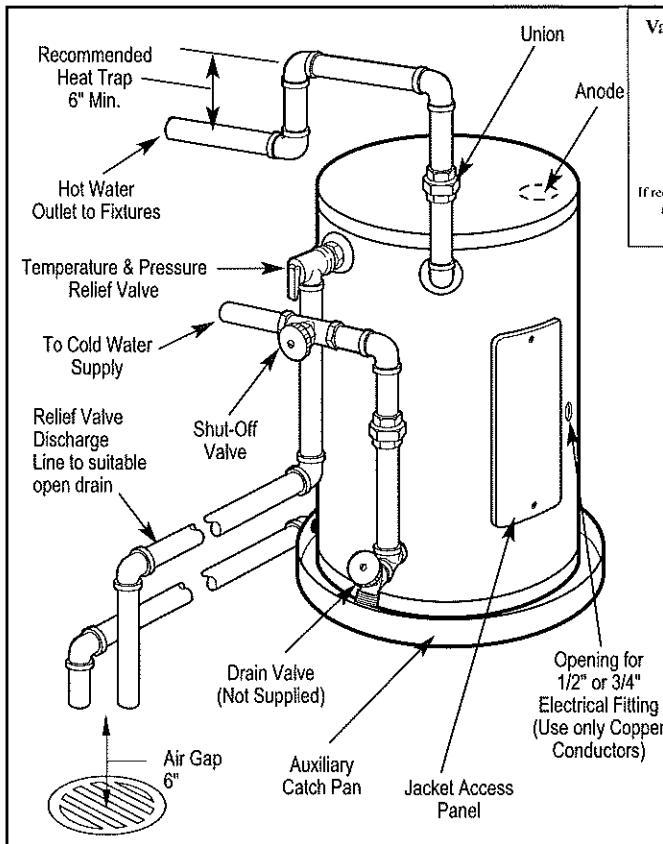
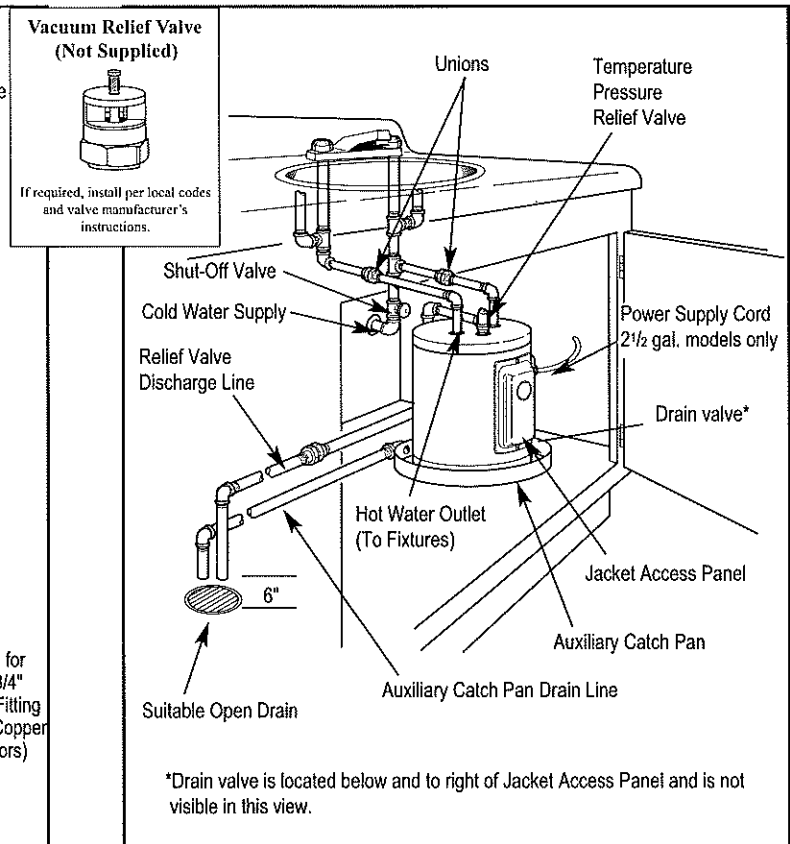

Figure 2. — Typical Side Connect Installation
Figure 3. — Typical Under Counter Top Connect Installation
3. **WATER SUPPLY CONNECTIONS** — Refer to Fig. 2 or 3 for suggested typical installation. The installation of unions or flexible copper connectors on the water connections is recommended so that the water heater may be easily disconnected for servicing if necessary. Connect cold water supply line to 3/4" pipe connection near the bottom of water heater. (Refer to Figure 2.) Install a shut-off valve and a drain valve (not supplied) in the cold water line near the water heater (Refer to Fig. 2.). Connect hot water line to 3/4" pipe connection marked HOT on the side near the top of the water heater. On some models, the hot and cold water connections are 1/2" pipe connections and are located on top of the heater. (Refer to Figure 3.) A drain valve is supplied on these models. Local codes may require an Anti-Siphon device on the water inlet of a side connect water heater.
- 4. RELIEF VALVE** — A new combination pressure and temperature relief valve, complying with the Standard for Relief Valves and Automatic Gas Shutoff Devices for Hot Water Supply Systems, ANSI Z21.22, must be installed in the opening provided and marked for the purpose on the water heater. (Refer to Fig. 2 or 3.) No valve of any type should be installed between the relief valve and the tank. Local codes shall govern the installation of relief valves.